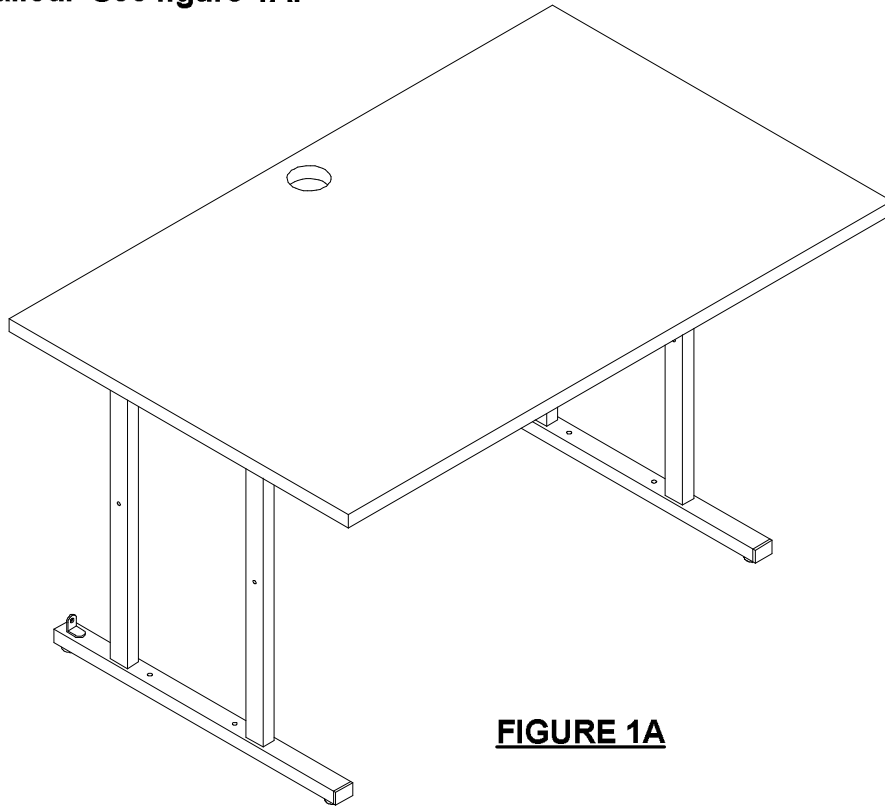

FIGURE 1A
3. With two people upright this portion of the table. **Caution: DO NOT** move table until back has been installed. See figure 1A.